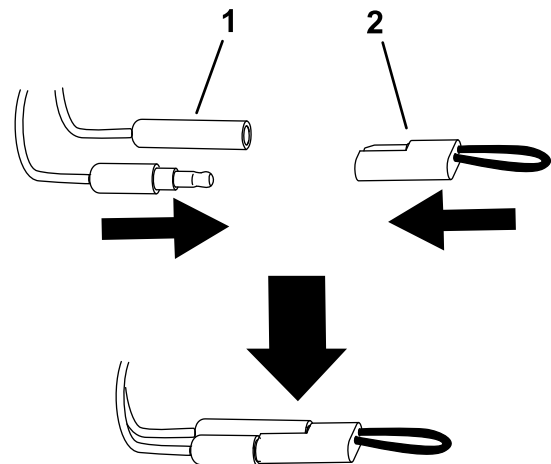

Figure 13
5. Disconnect the calibration connectors and install the plug onto the connectors (Figure 13).